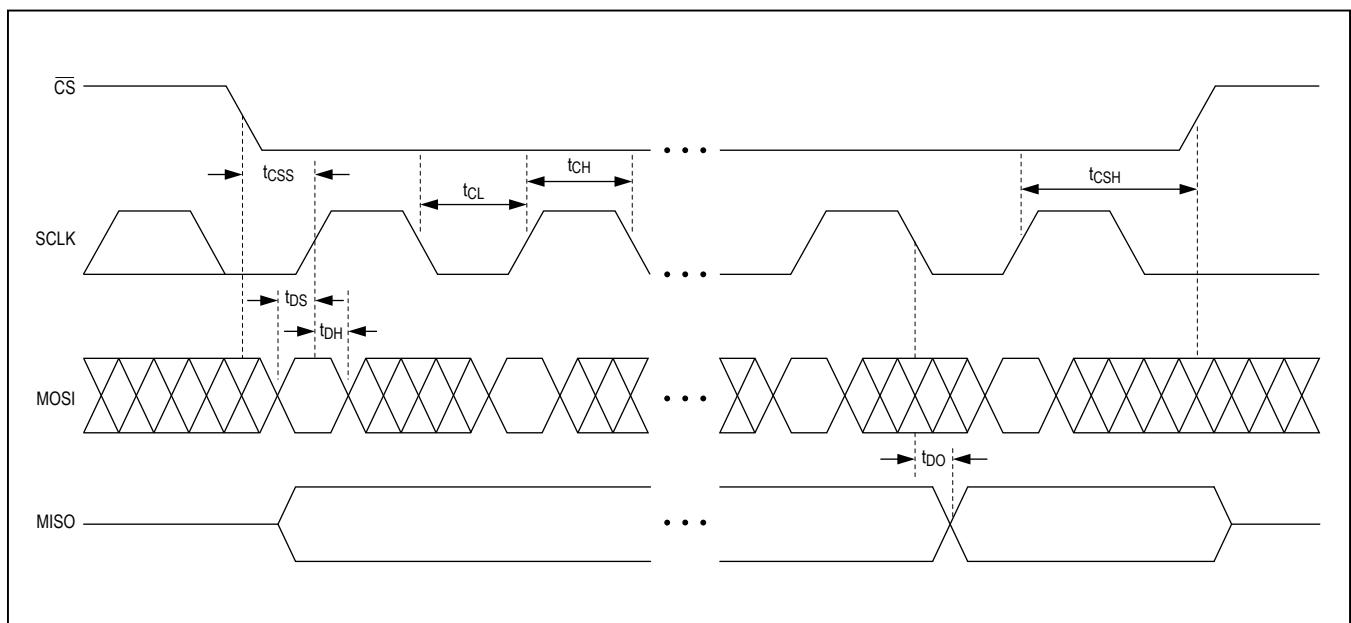

Figure 12. SPI Timing Details
In SPI mode, the device operates a shift register designed to work with common serial interfaces. The bits are shifted through so that a large serial chain can be made to minimize pins needed for a system with multiple devices. (See Figure 12.) This shift register is also designed to be compatible with common microcontroller SPI-type interfaces. The switches in the MAX14661 are all transitioned simultaneously. To update the switches in SPI mode, the user must shift in a bit with the desired state of each switch according to the data format listed in Table 4. The switches are updated at the rising edge of CS with the last 32 bits of data shifted in **only if the number of bits clocked in is greater than or equal to the number of switches (32)**. The DOUT pin is the serial output of the shift register. This outputs the data loaded into DIN, delayed by 32 clocks, and is intended for creating a serial daisy chain to minimize the number select lines required
Note that the data in the shift register may not be the same as the state of the switches. The DOUT pin is intended for daisy chain applications and not for switch readback. Note for V_{CC} less than 2.7V, the DOUT propagation delay can limit the maximum SPI operating frequency. See Figures 12 and 13 for the SPI timing diagrams. The voltage level driven out by the DOUT buffer is set by the voltage applied to SPI/I²C. This allows the voltage to be independent from the supply voltage. While we expect the voltage at SPI/I²C to be less than or equal to V_{CC} in most applications, it can be higher than V_{CC} as long as it does not exceed V_{CC} before V_{CC} has reached at least 1.8V.